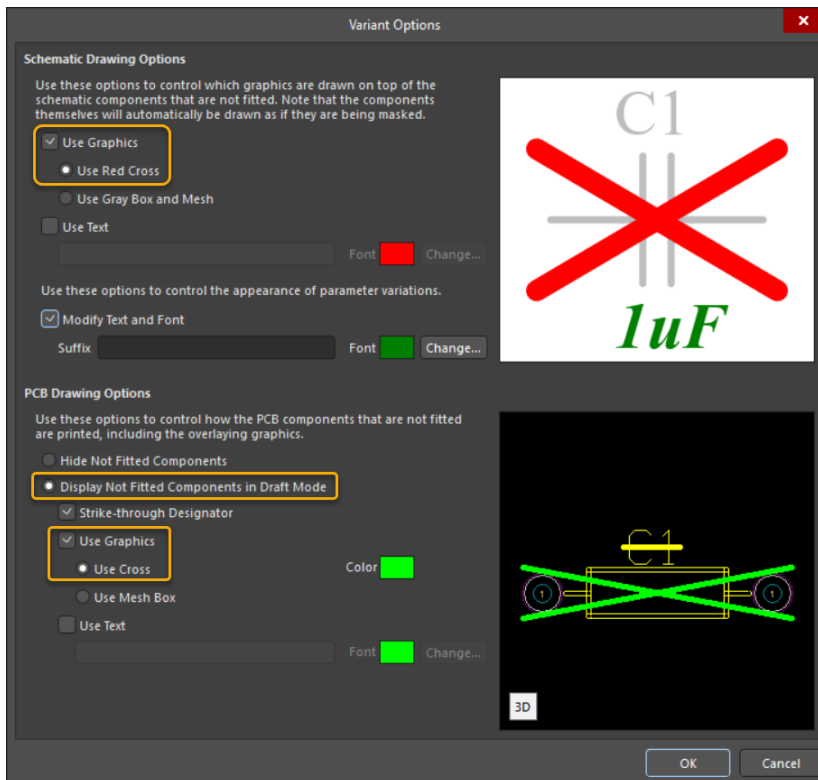

Figure 5. *Variant Drawing Options*
12. Make sure the *Schematic Drawing Options* has the **Use Graphics** checkbox enabled as shown in Figure 5 below.
14. Under the *PCB Drawing Options* section, ensure that **Display Not Fitted Components in Draft Mode** is selected as shown in Figure 5.